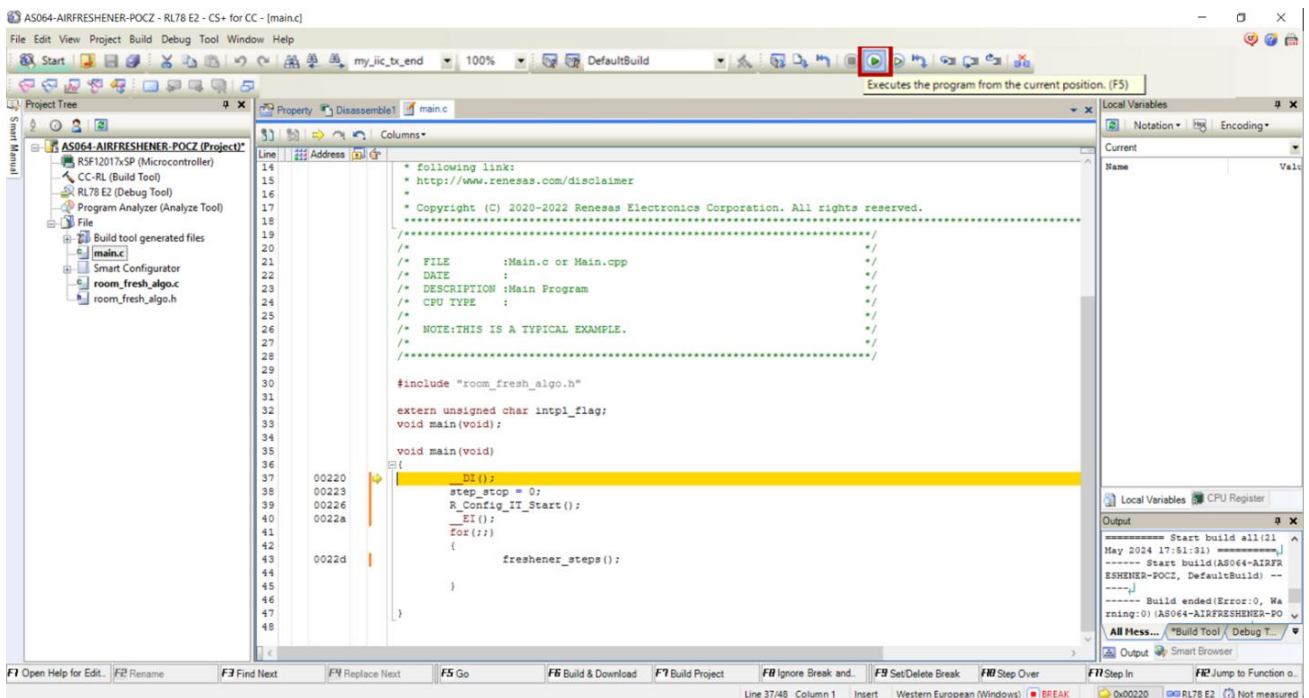

Figure 13: Execute the Program
4. Once the download is completed click on Execute command as highlighted in Figure:13.